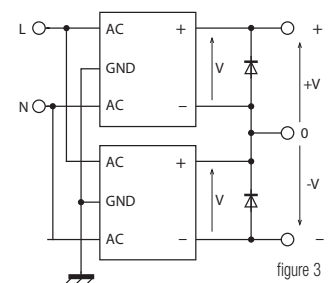

figure 3
**Dual voltage output power supplies:** if a specific model with dual output is not available, dual output voltage can be achieved by connecting the outputs of two power supply unit as in Figure 3.